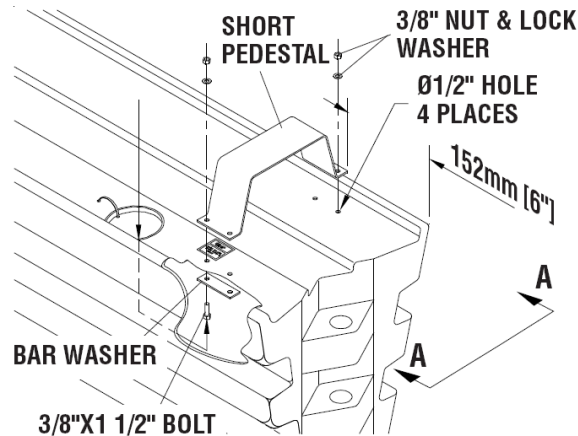

Figure 3
6. Using the pedestal as a template, drill 1/2" holes – 4 places as shown (See Figure 3). Attach short pedestal to surface of first section using 3/8" nuts, lock washers, bolts and bar washers, as shown in Figure 3 & view A-A. Use fill port as access hole.